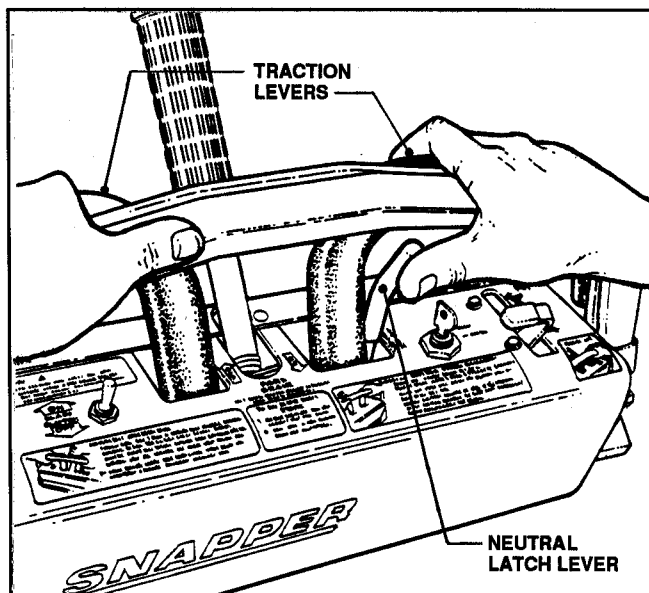

FIGURE 11
14. Squeeze both TRACTION LEVERS releasing NEUTRAL LATCH. Slowly release both TRACTION LEVERS. See Figure 11.